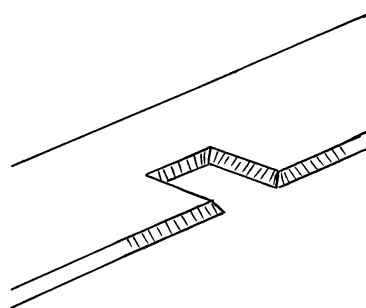

Fig 3. Chamfered edges.
2. Where there is conflict between the rib and existing mispositioned stiffener, cut away the skin of the stiffener and the foam underneath, taking care not to cut into the main skin. The ribs have 25mm (1") wide flanges, so make your cut-aways about 6mm (1/4") wider than this. Carry out a trial fit to ensure that the cut-outs are correctly positioned. Chamfer the edges in readiness for a 2-ply layup - see figure 3.